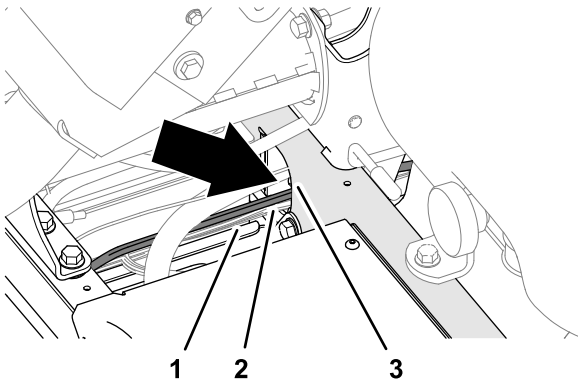

Figure 10
2. Route the rest of the power harness along the wire harness of the machine and through the support channel (Figure 10).